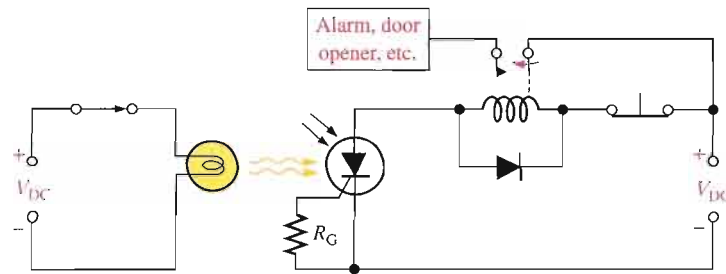

FIGURE 11-54
Figure 11-54 shows a LASCR used to energize a latching relay. The input source turns on the lamp; the resulting incident light triggers the LASCR. The anode current energizes the relay and closes the contact. Notice that the input source is electrically isolated from the rest of the circuit.
2. What is required in Figure 11-54 to turn off the LASCR and de-energize the relay?